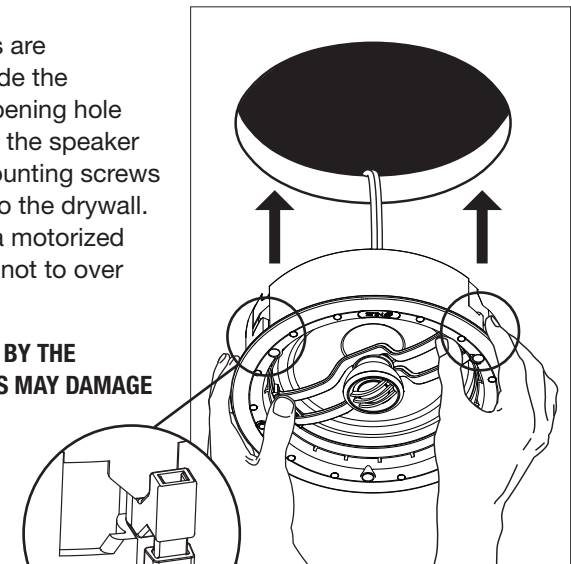

Figure 4. Installing a CM7SD loudspeaker.
9. Once the speaker wires are connected, carefully slide the loudspeaker into the opening hole (**Figure 4**). While holding the speaker in place, tighten the mounting screws to secure the speaker to the drywall. We recommend using a motorized screwdriver. Be careful not to over tighten.